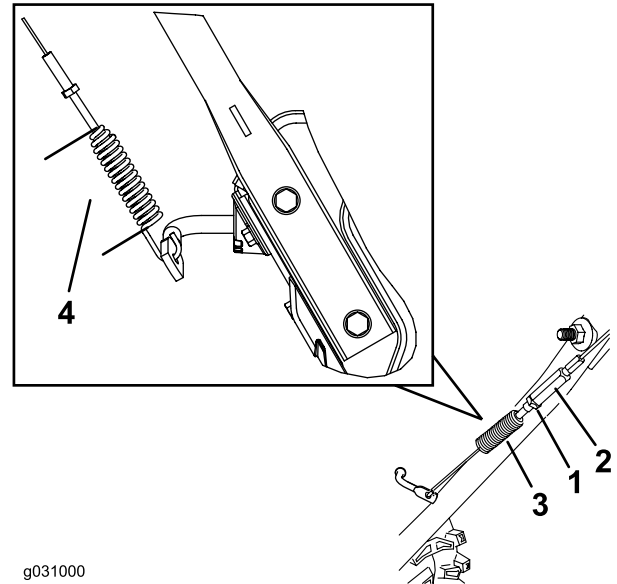

Figure 40
3. Loosen or tighten the turnbuckle to adjust the spring length to 7 cm (2.75 inches) (Figure 40).
4. Tighten the jam nut (Figure 40), ensuring there is slight tension on the cable.